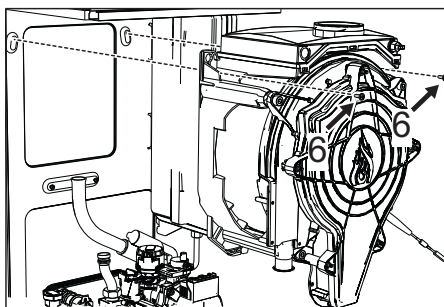

fig. 50
- Remove the 2 **top** screws "6" securing the exchanger to the frame (fig. 50)